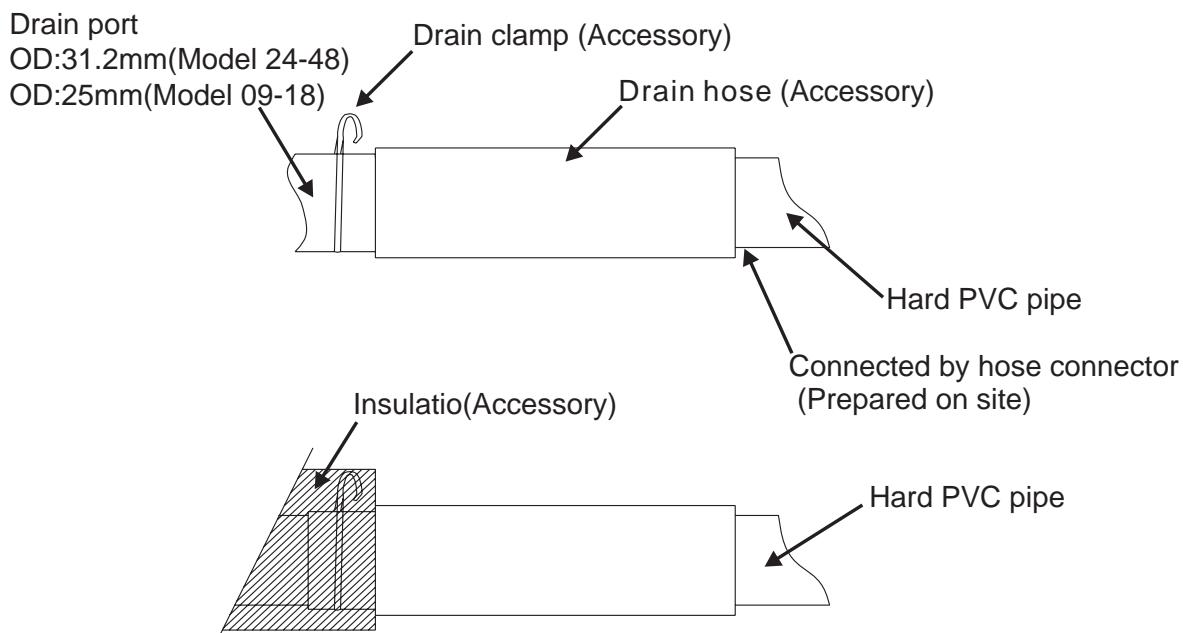

Fig.12
3. Insert the drain hose until it connects the drain port very well, and then secure it tightly with the hose clamp (Prepared on site) (Fig.12)
4. After checking the drainage, wrap the drain hose with the insulation and clamp. (Prepared on site) (Fig.12)